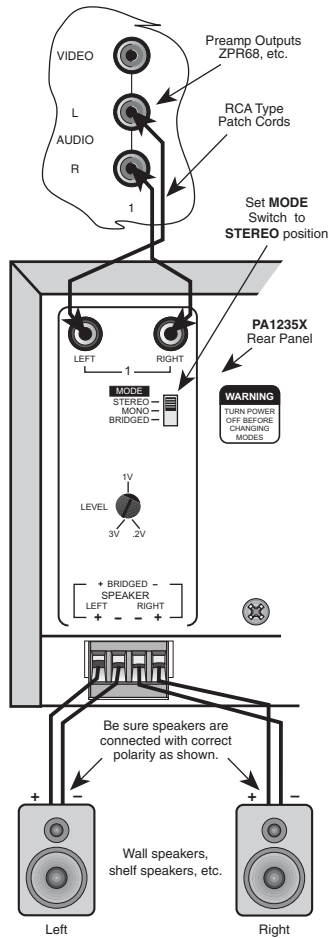

Figure 5 - PA1235X Stereo Mode Connections
1. Using good quality RCA-type patch cables connect the L and R OUTPUT jacks of the driving preamp to the LEFT and RIGHT input jacks on the PA1235X. Do this for each amplifier pair. Refer to Fig. 5.
5. Be sure to observe correct polarity by connecting the "+" and "-" terminal from each channel on the PA1235X to the corresponding "+" and "-" terminals on each speaker. This will ensure correct "phasing". See **Figure 5** and Speaker Phasing, following. Since the connectors are removable, you may unplug them for ease of lead assembly.
- a) If the "+" (positive) and "-" (negative) terminals on your speakers are correctly marked, and visible, and you have wired the system as shown in **Figs. 5 and 7**, then the system will be "in phase". No further action is required. Most manufacturers identify the positive terminal with a red binding post, a "+" sign, or a red dot.